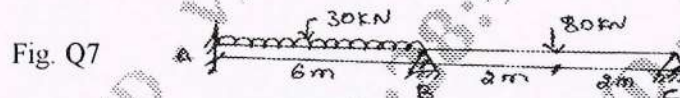

Fig. Q7
- 7 Analyze the beam shown in Fig. Q7, by Flexibility Matrix method. Draw Bending Moment diagram. (20 Marks)